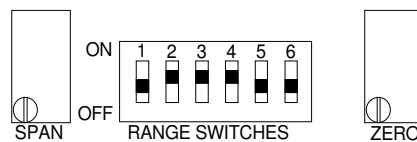

Figure 3
- Using a small slotted screwdriver, adjust the Zero potentiometer (Figure 3) until the desired temperature is shown on the display.
4. Adjust the meter's Zero potentiometer (Fig. 3) until the meter reads your low end (Zero) temperature.